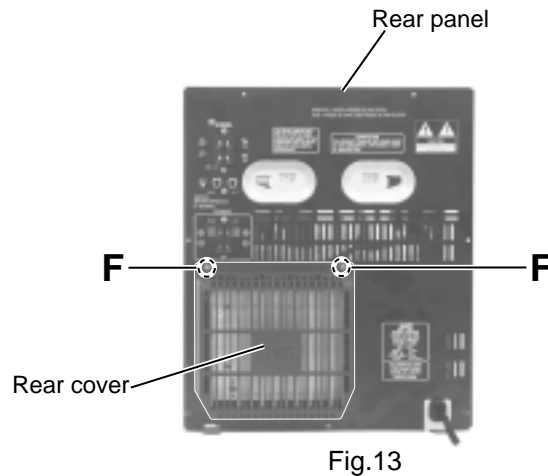

Fig.13
■Removing the rear cover and the rear panel (See Fig.13 to 16)